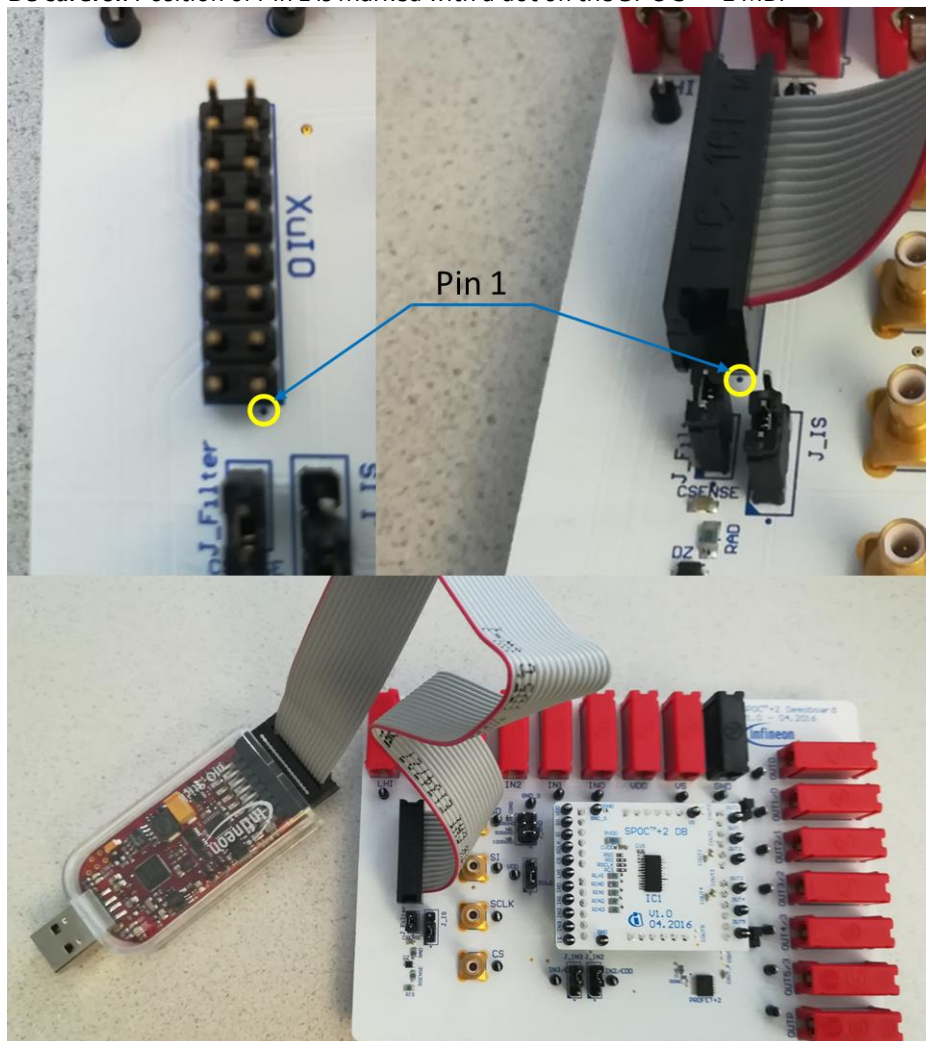

Figure 12 - Connecting μ IO-Stick to SPOC™+2 MB
- Connect the μ IO-Stick to the SPOC™+2 MB via the connector cable (see Figure 12)